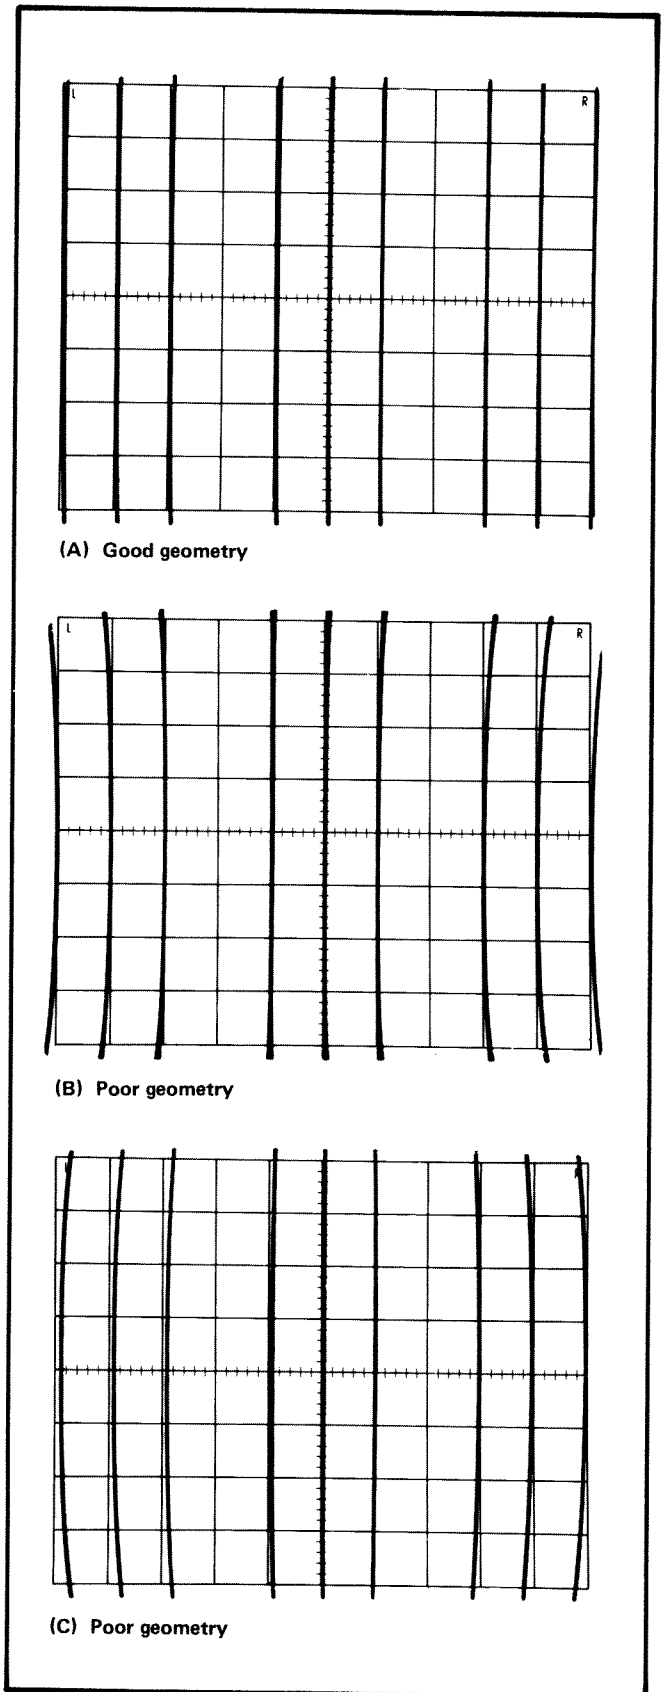

Fig. 5-5. (A) Typical CRT display of good geometry; (B) and (C) poor geometry.
c. CHECK—CRT display for 0.1 division or less bowing of the traces at the left and right edges of the graticule. See Fig. 5-5.